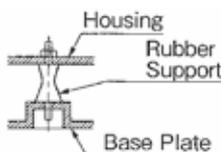

Fig. 9
3) Loosen 4 nuts of the Rubber Support and take out 4 Rubber Supports from the Housing. Now the disassembly is completed. (Fig.9)
**NOTE:** If the Rubber Support is installed, being twisted, the Rubber Support will be quickly damaged. (Fig.9)